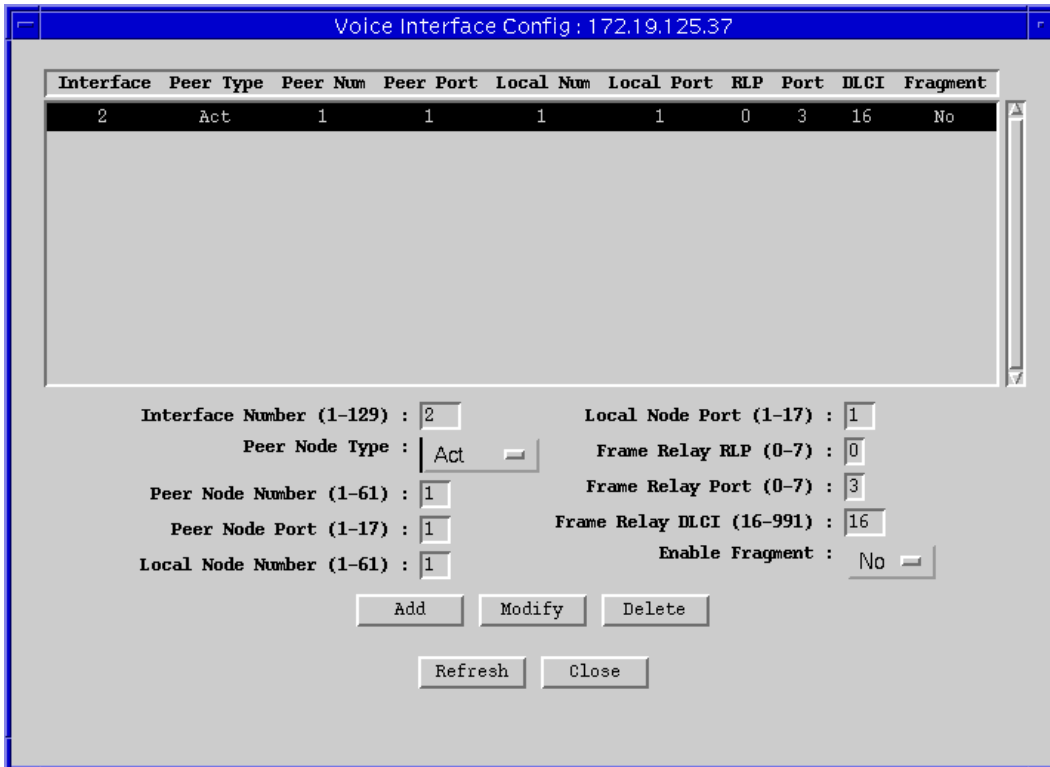

Figure 12-4. Voice Interface Config
2. Drag down to **Voice Interface Configuration**, and release. The Voice Interface Config window, Figure 12-4, will appear.